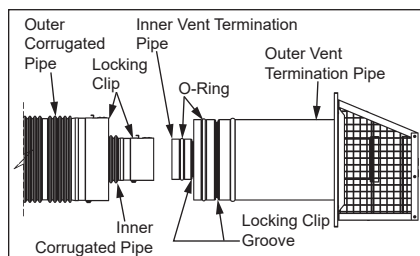
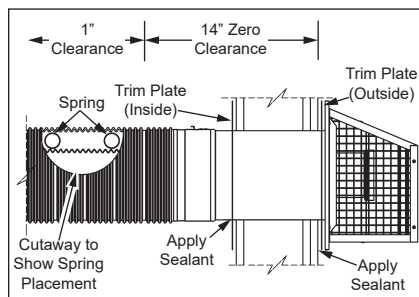
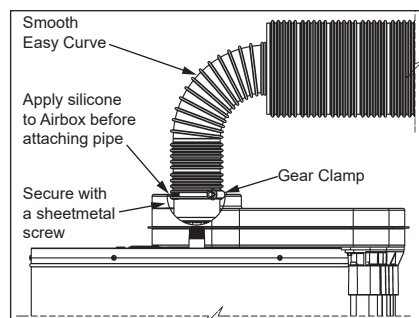

Figure 7 - Vent Piping
Figure 9 - Trim Plate Install
Figure 13 - Apply Silicone to the Venting
of the combustion air intake. Figure 7 through Figure 13 show how to assemble and connect the venting system.
Cut a clearance hole, approximately 7" in diameter, through the exterior wall for the vent assembly. The recommended height is 64" for 40 gallon models or 73" for 50 gallon models, as measured from the hole center to bottom of water heater. Where the wall is combustible and the wall thickness is over 14", a 1" clearance to combustible surfaces around the vent terminal is needed. The first 14" is zero clearance (see Figure 9 on page 10).
The vent piping and the vent termination hood are to be connected as shown in Figure 7. Maintain vent clearances to combustibles as shown in Figure 9. Depending on your access to where the vent termination passes through the wall, you may wish to connect the piping and vent termination hood together first. Inside the vent piping there are springs that hold the two corrugated pipes in position. When the pipes are stretched to the required length, the springs will remain properly spaced. To connect the vent piping to the vent termination hood, first slide the inner (3") corrugated pipe over the inner vent termination pipe. Continue this action until the locking clip on the corrugated pipe snaps into position in the corresponding groove (see Figure 7). Secure corrugated pipe with screw (supplied) inserted through hole opposite the locking clip. Repeat this process with the outer (6") corrugated pipe and lock it into position on the outer pipe on the vent termination (see Figure 7). Secure corrugated pipe with screw (supplied) inserted through hole opposite the locking clip.
Some models are supplied with trim plates which may be used to cover the holes in the wall (see "Completed Installation" on page 2 and Figure 9). Slide one trim plate (if supplied) over the outer corrugated tube, then insert the outer corrugated tube through the clearance hole from exterior wall. Secure the trim plate to the exterior wall, then secure the vent terminal to the exterior wall with 4 screw anchors (included) appropriate for the type of wall construction. Caulk the junction of the vent terminal base plate and the exterior wall with exterior type sealant (not included). Slide the trim plate (inside) over the outer corrugated tube and fasten the trim plate to the interior wall. Caulk the junction of the outer corrugated tube and the trim plate (inside) with suitable sealant. The vent termination hood attaches to the vent piping as shown in Figure 9.
gear clamp. Pull the free end of the corrugated pipe past the gear clamp and secure with one sheet metal screw (see Figure 13).
3. Minimum vent pipe clearance to combustibles is 1" (see Figure 9).